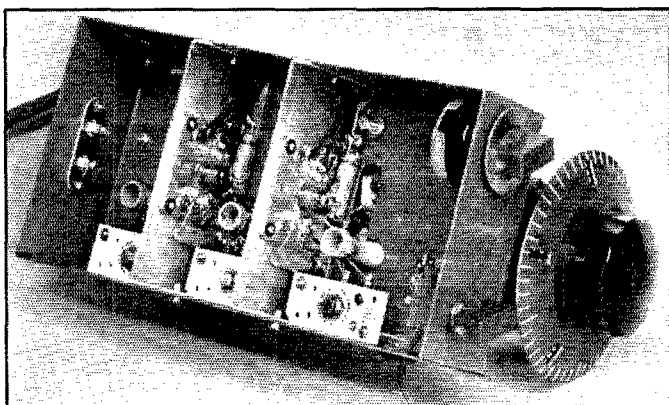

FIG. 5—BELOW-CHASSIS VIEW OF THE TWO-STAGE PRESELECTOR
- C₃, C₈—See caption under Fig. 5.